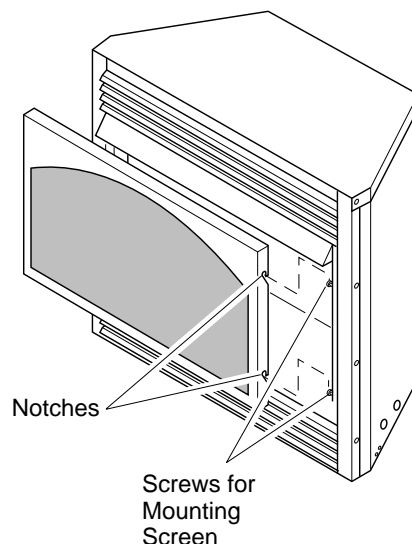

Figure 38 - Installing Fireplace Screen
5. Install fireplace screen by slipping notches of fireplace screen over screws on front of fireplace (see Figure 38).